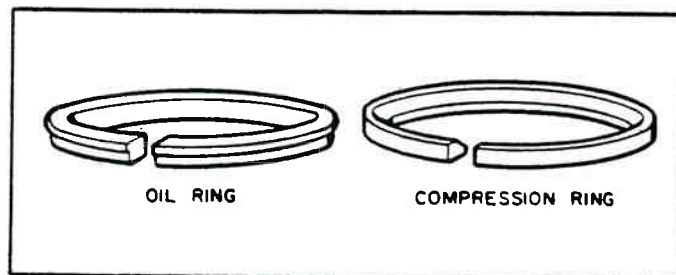

Figure 16-38: Piston Rings
4. On each piston, install the oil ring first, in the second groove, and the compression ring next, in the first groove nearest the piston top. The oil ring is notched and must be installed with the notch on the outside circumference and on the bottom. The compression ring is tapered on the inside circumference (figure 16-38). Install this ring with the taper on the top of the ring facing toward the valve plate.